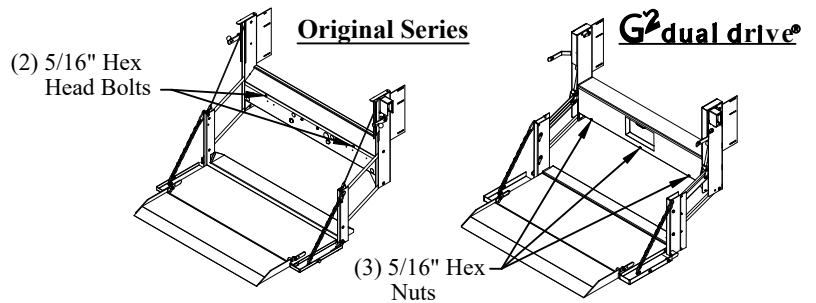

Figure 11: Box cover locations.
5. **Remove** the box cover by removing the 5/16" hex head bolts or nuts (Figure 11).